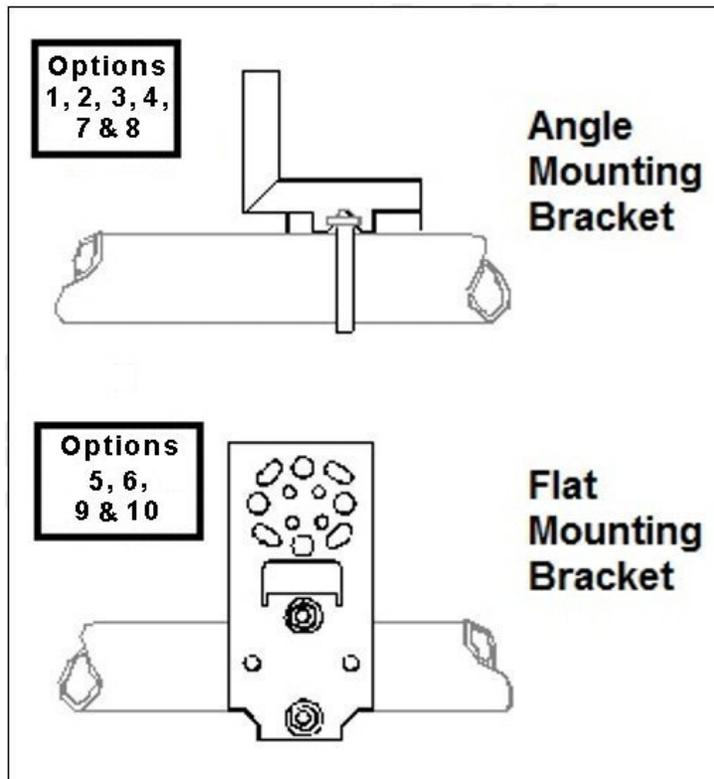

Figure 29 – ST 700 Standard Transmitter - Angle and Flat Bracket Parts
**Table 25 – ST 700 Standard Transmitter - Angle and Flat Bracket Parts**(Refer to Figure 29)